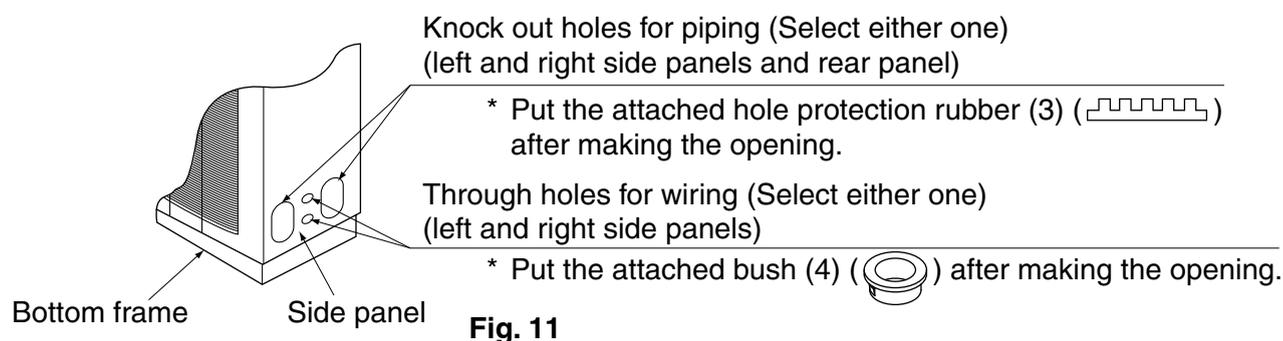

Fig. 11
- Open the knock out holes on the right (left) side panel. (Refer to Fig. 11)